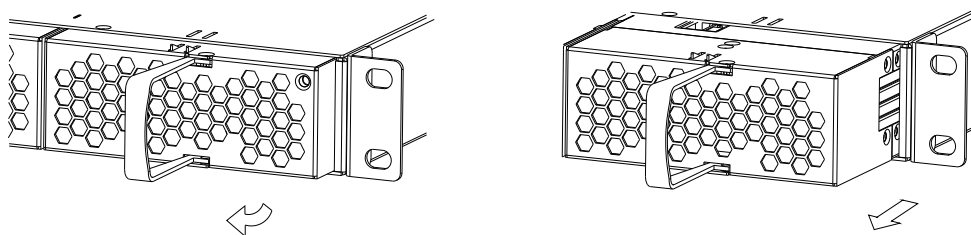

Figure 3-7 Illustration of how to remove the DRP/DBR-3200 from a rack
- ⊙ Pull out units: Press the clip shown in Figure 3-7 and pull it out.